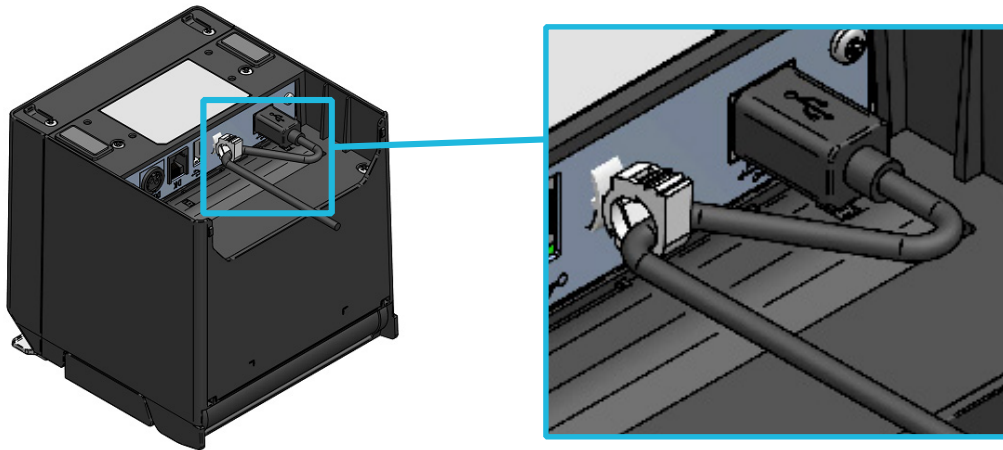
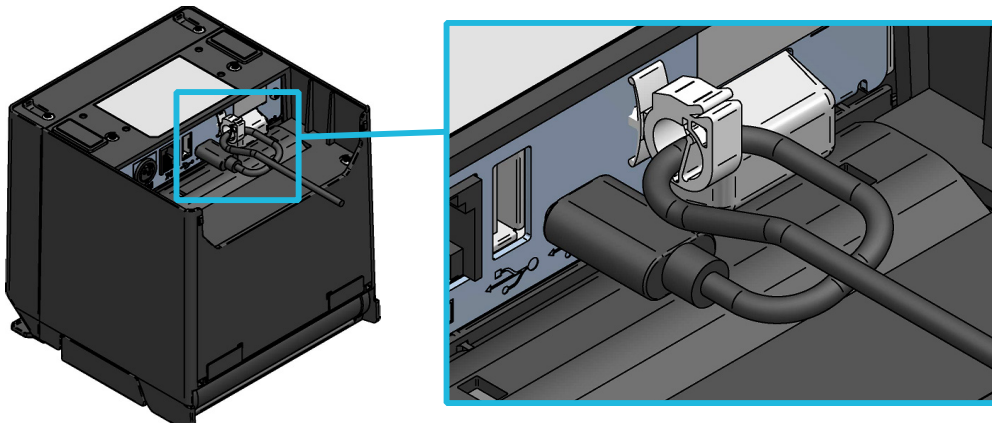

Figure 12-2 Printer and USB Cable Bind
Figure 12-4 Printer and USB Type-C Cable Bind
- (1) Ensure that the printer is off.
- (2) Connect the interface cable to use to the interface connector on the back side of the printer. (Bind the USB cable with the wire clip as shown in Figure 12-2 for connecting the USB cable and Figure 12-4 for connecting the USB Type-C cable.)
- (3) Turn on the printer, and send data from the host device to the printer.
- (4) Verify that the data is printed correctly.